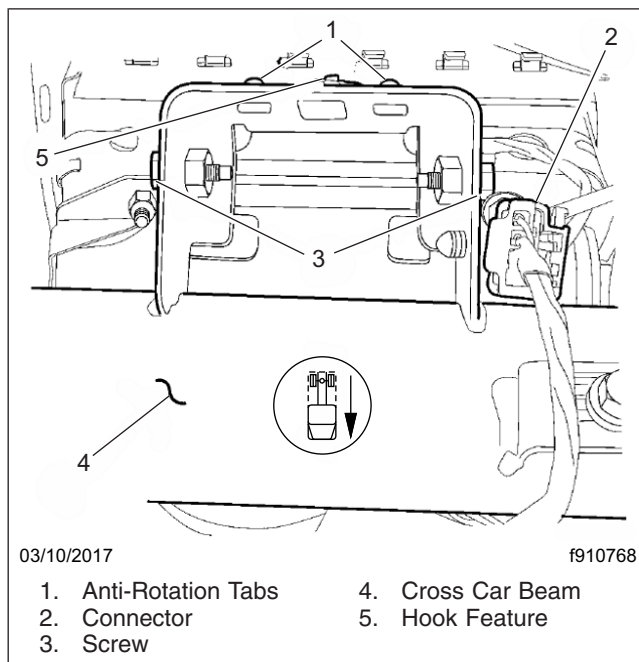

Fig. 3, Airbag Mounting and Connector (viewed from below)
6. Reach up into the dash between the upper glove box opening reinforcement and the cross car beam and disconnect the dash wire harness from the airbag inflator pigtail wire connector. The connector is located on the right-hand side of the airbag support bracket. See **Fig. 3**. To disconnect the connector, slide the red Connector Position Assurance (CPA) lock on top of the connector toward the side of the connector, then depress the latch tab and pull the two halves of the connector apart.
18. Carefully position the airbag and airbag cover panel into place in the dash. Make sure the hook feature is engaged in the airbag support bracket and the anti-rotation tabs on either side of the hook are engaged in the two holes in the airbag lower bracket. See Fig. 3.